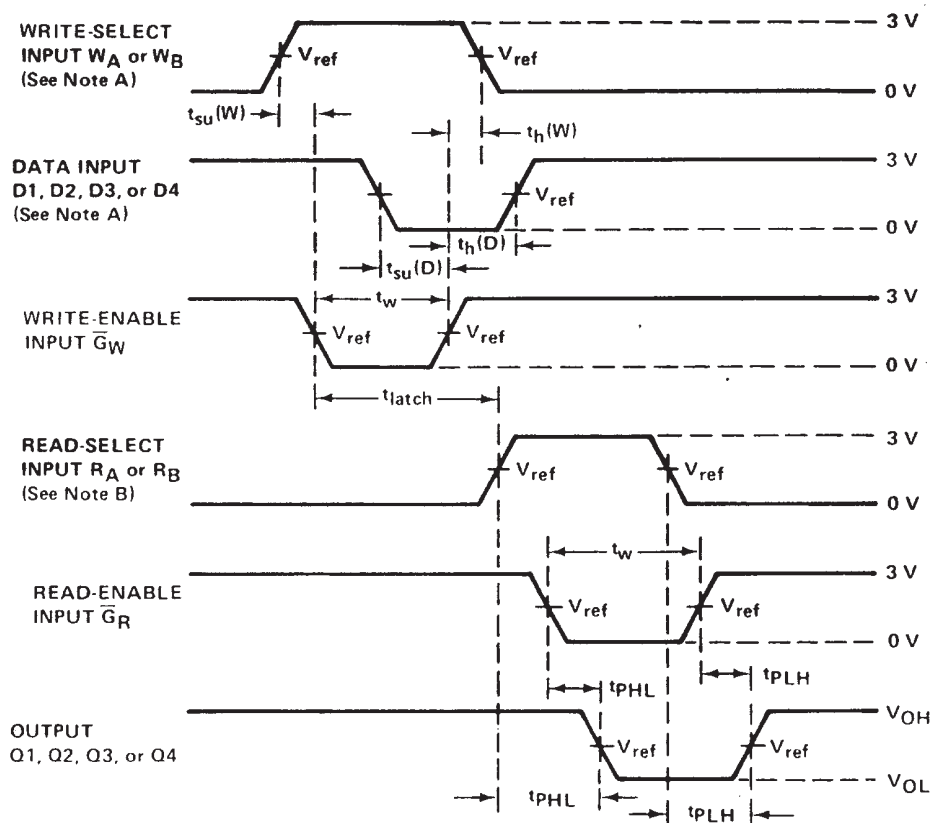

FIGURE 2
4. Latch time is the time allowed for the internal output of the latch to assume the state of new data. See Figure 2. This is important only when attempting to read from a location immediately after that location has received new data.
- High-level input pulses at the select and data inputs are illustrated in Figure 2; however, times associated with low-level pulses are measured from the same reference points.
- NOTES: A. High-level input pulses at the select and data inputs are illustrated in Figure 2; however, times associated with low-level pulses are measured from the same reference points.